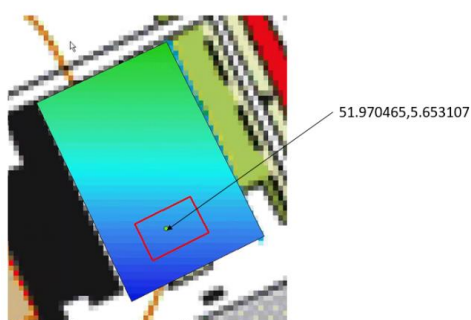

Figure 1: A heterogeneous field; therefore, sample a smaller area within the field.
- Record the coordinates of the middle point of the sampled area (refer to Figures 1 and 2).
- If the soil in your field exhibits significant variation (heterogeneous, Figure 1), limit the sampled area to a maximum of 1 hectare.